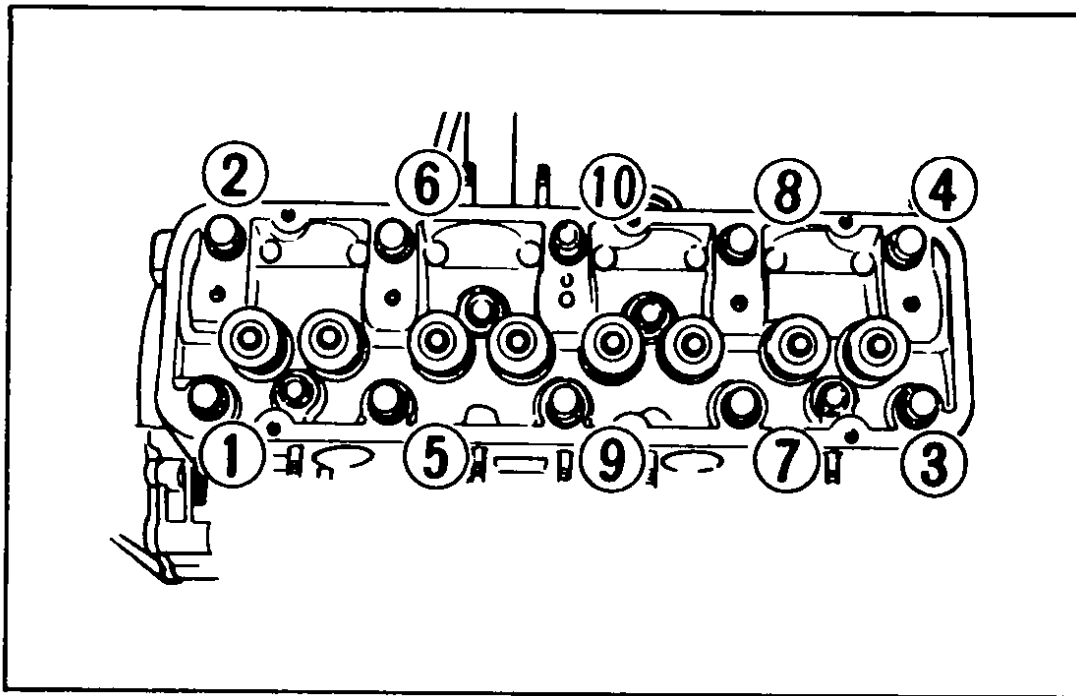

Fig 135 Cylinder head bolt loosening sequence – Model B210
- 11 Loosen the cylinder head bolts in sequence shown in Fig 135. Loosen them a little at a time to avoid warping the head